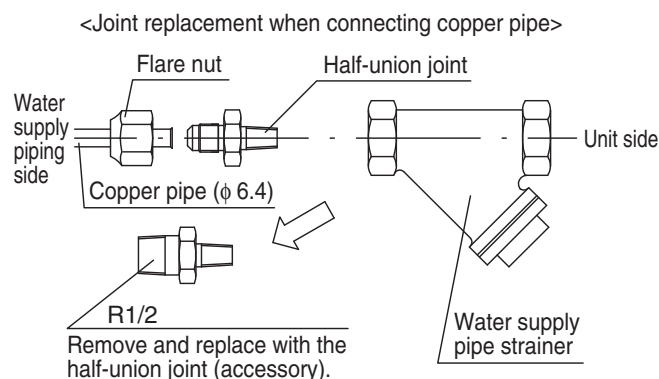

Fig. 9
- When connecting the water supply connection port (R1/2) to a copper pipe (φ 6.4), replace the fitting with the half-union joint (accessory) and use the flare nut (accessory). (Refer to Fig. 9)